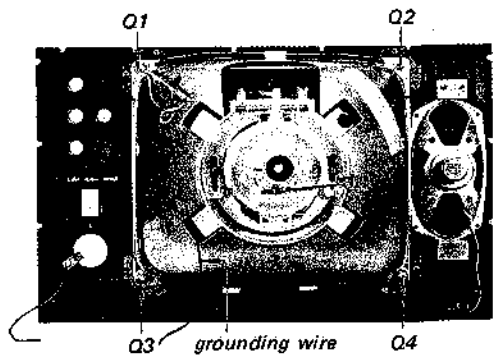

Fig. 2-22.
15. Remove the four nuts labeled Q1 ~ Q4 in Fig. 2-22.
2. Tighten the four nuts in Fig 2-22.